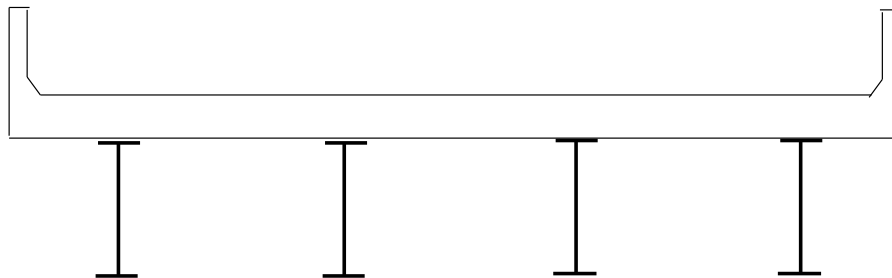

Figure 4. Cast-in-Place or Precast Concrete Slab Supported by Steel Beams.
- **Beam and Slab Bridges** consist of reinforced concrete slab supported over longitudinal steel beams (Figure 4).